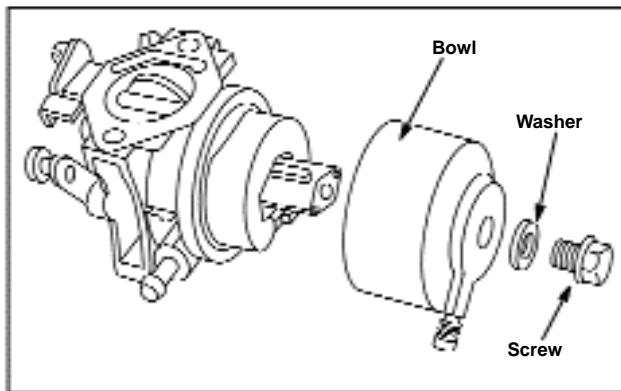

**Figure 11 - Removing Fuel Hose and Clamp**
2. Move hose clamp down, and remove fuel hose from carburetor inlet. See Figure 11.
3. Open float bowl drain screw, and drain gasoline into an approved container to drain carburetor, Figure 11.